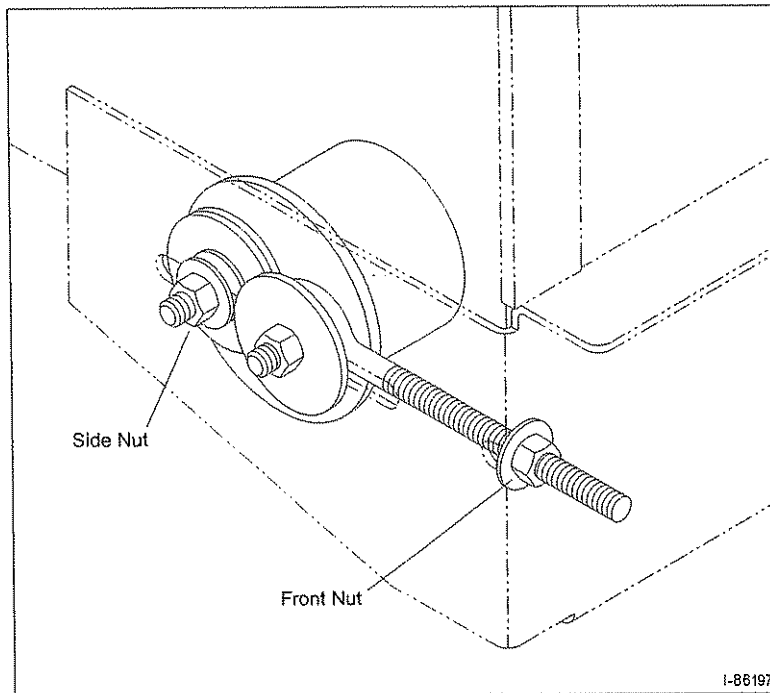

Figure 4A-Adjusting the Floor Apron Chain for Proper Tension
- Periodically check the floor apron chain for proper tension/tightness (refer to Figure 4A).
- Use a 9/16" wrench to loosen the two side nuts on each side of the spreader box as shown in Figure 4A. Then, turn the *front* nut clockwise with a 9/16" wrench until proper tension is achieved. Repeat for the other side. *Make sure that the chains on each side of the apron are equally taut.*